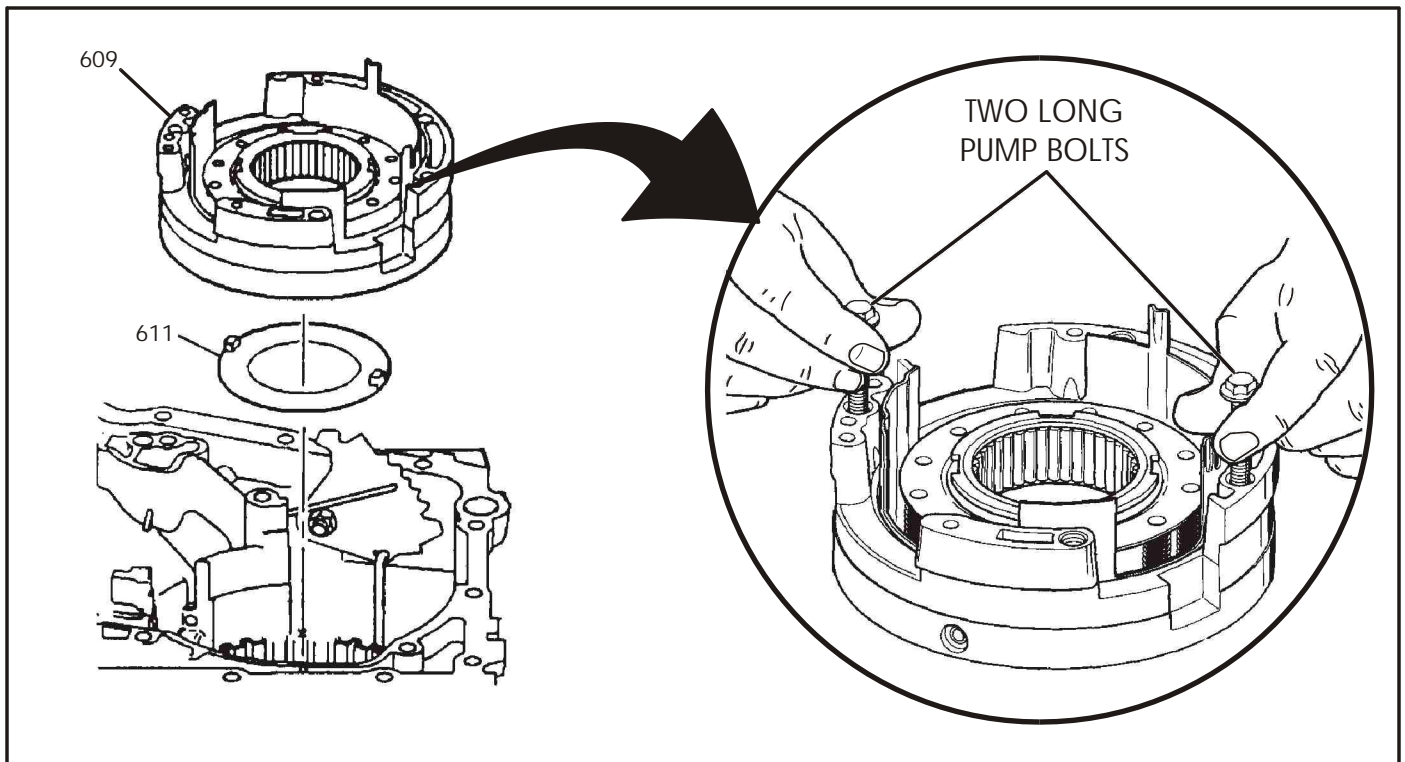

Figure 68
16. Install the two large pump bolts (13mm) into the driven sprocket support assembly as shown in Figure 68.
17. Grasp the two bolts and lift with a twisting motion as you remove the sprocket support. Refer to Figure 68.
18. Remove the thrust washer (611) from the 2nd clutch housing. The washer may be stuck to the driven sprocket support assembly. Refer to Figure 68.